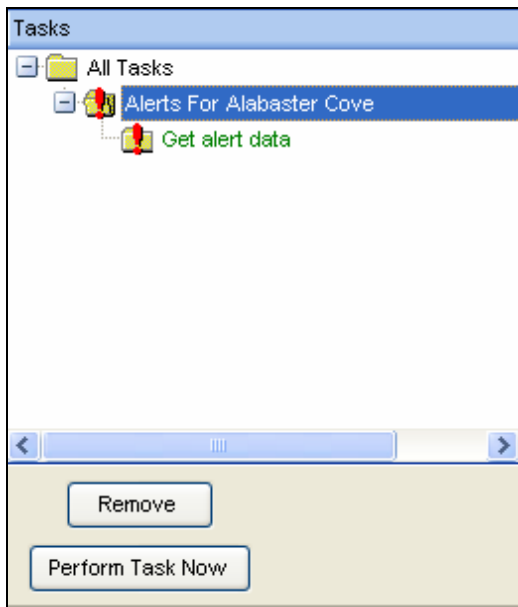

Figure 11.0.7
- Once you have selected a function click on the **Add** button to add the function to your task. If you want to add more functions to the task just repeat this step until done. The selected functions will appear as sub-sections of the task itself (Figure 11.0.7).